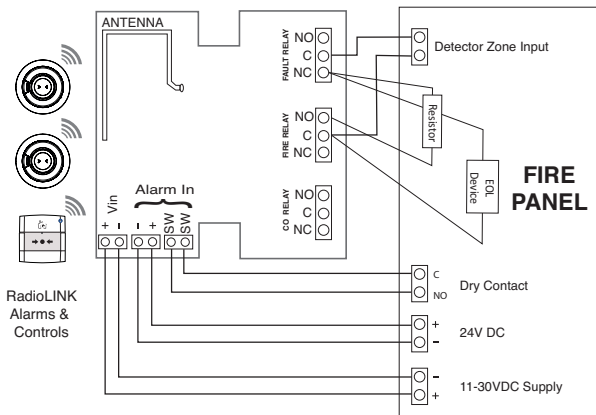

Figure 5
1. Place the current limiting resistor between the NC terminal of the Fault Relay and the NO terminal of the Fire relay as shown in Figure 5. **Check with the fire panel manufacturer for the value of the resistor to be used.**
4. Wire the Fault Relay common (C) terminal and the Fire Relay common (C) terminal to a detector circuit in the panel.
5. Wire the EOL device to the NC terminal of the Fault relay and the C terminal of the Fire relay as shown in Figure 5.